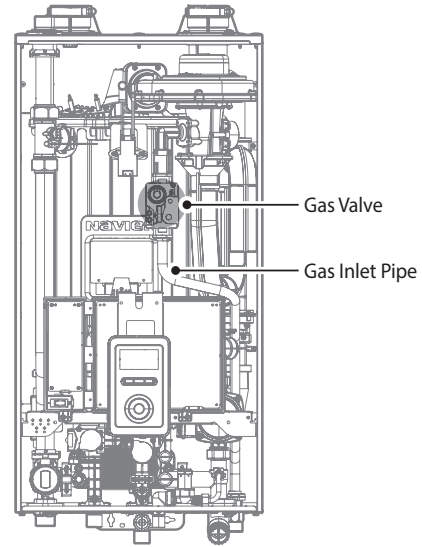

Figure 2. NFC Series Internal Components
4. With the internal components exposed, locate the gas inlet pipe and the gas valve, as shown in Figure 2.